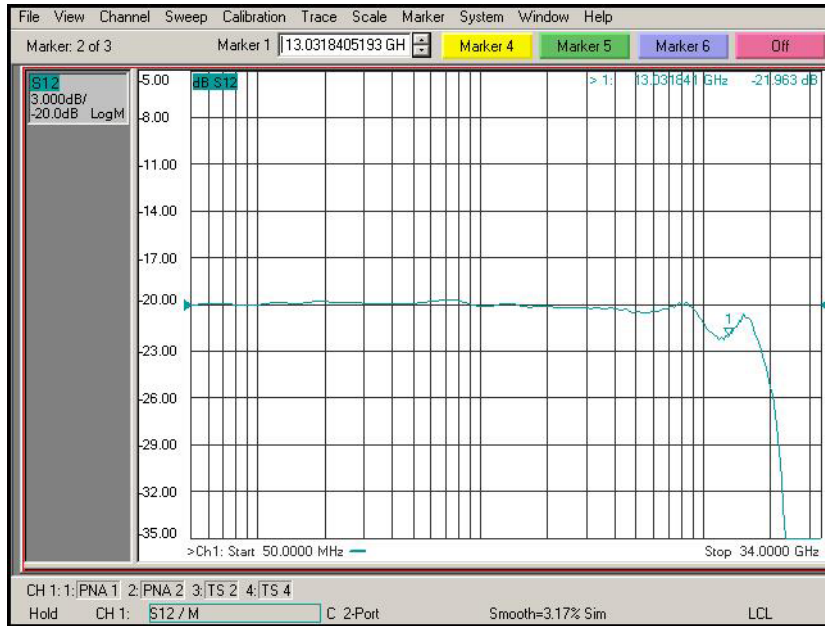

Figure 99 De-Embedded V_{out}/V_{in} Response of the Probe
- b Again, adjust the “Reference Level” in the scale menu so the 50 MHz point is at center screen. The display should look like **Figure 99** on page 126.